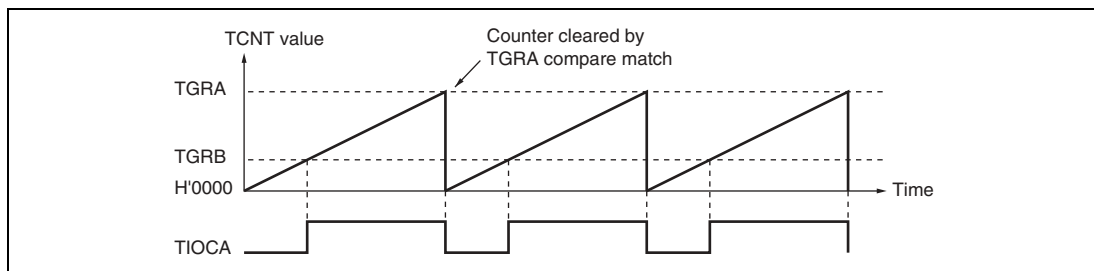

**Figure 11.21 Example of PWM Mode Operation (1)**
**Examples of PWM Mode Operation:** Figure 11.21 shows an example of PWM mode 1 operation.